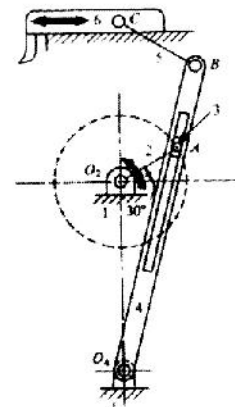

Fig. 2
3. (a) Sketch of a slotted lever mechanism is shown in Fig. 2.  $O_2A = 12$  cm,  $O_2O_4 = 30$  cm,  $O_4B = 60$  cm, and  $BC = 15$  cm. The line of movement of C is 30 cm above the point  $O_2$ .  $O_2A$  makes an angle of  $30^\circ$  with horizontal axis as shown in figure. Find the time-ratio of cutting stroke to return stroke and the stroke length. Why is it called quick return mechanism?